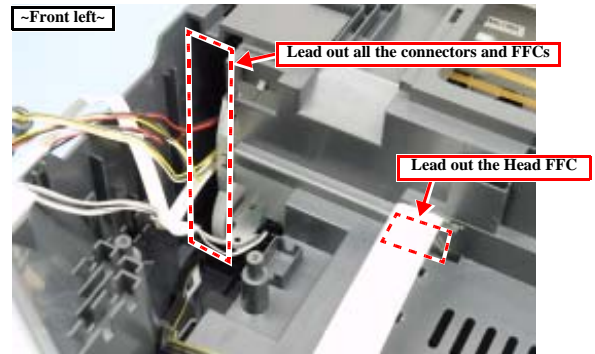

Figure 4-24. Leading out Connectors and FFCs
3. Lead out all the connectors and FFCs through the space shown in the figure and install the Middle Housing on the printer. (Fig. 4-24)